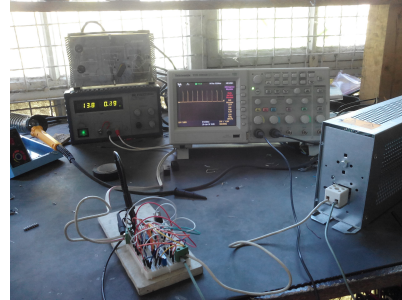

Figure 2: Test with a voltage source
- With a stabilized voltage source (figure 2) by increasing the voltage. When the voltage reaches the threshold voltage, it stops increasing. Some current is sent to the dump load and the voltage is regulated.